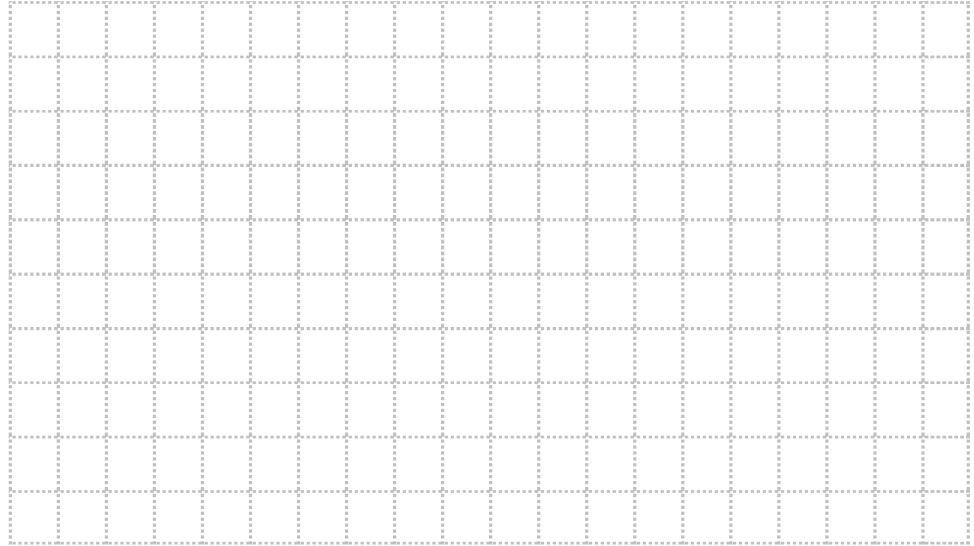

Figure 1-6. Flow rate versus speed curve.
17. Plot the flow rate versus speed (30 Hz \approx 1725 r/min) curve in Figure 1-6.